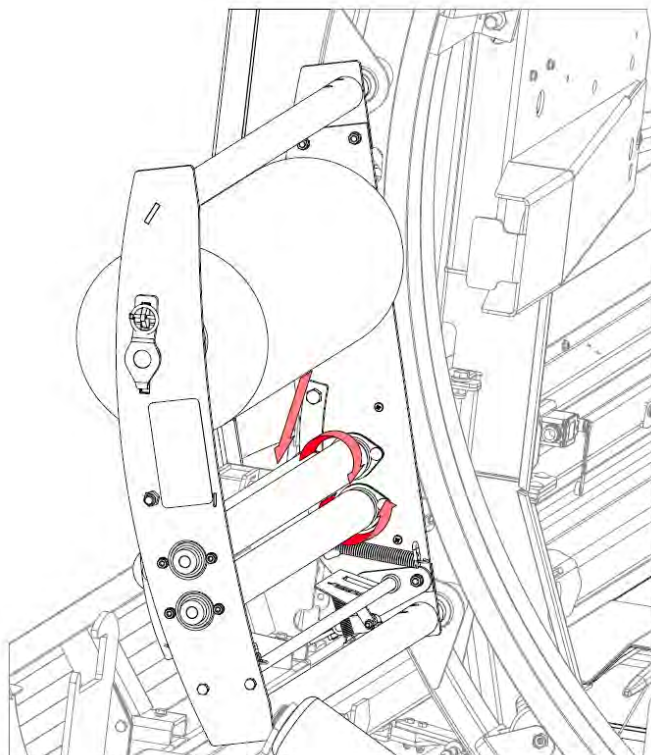

Fig. 6
12. Route loose end of plastic wrap roll through 3 bottom rollers as shown in Fig. 6 and decal located on rear side of plastic wrap carrier. See Fig. 5.